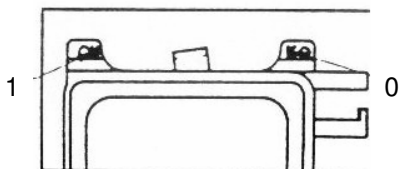

Fig. 8
The secondary air regulator is in the top of the fire door and can be set according to the fuel being used, wood (1) or coal (0) (Fig. 8).